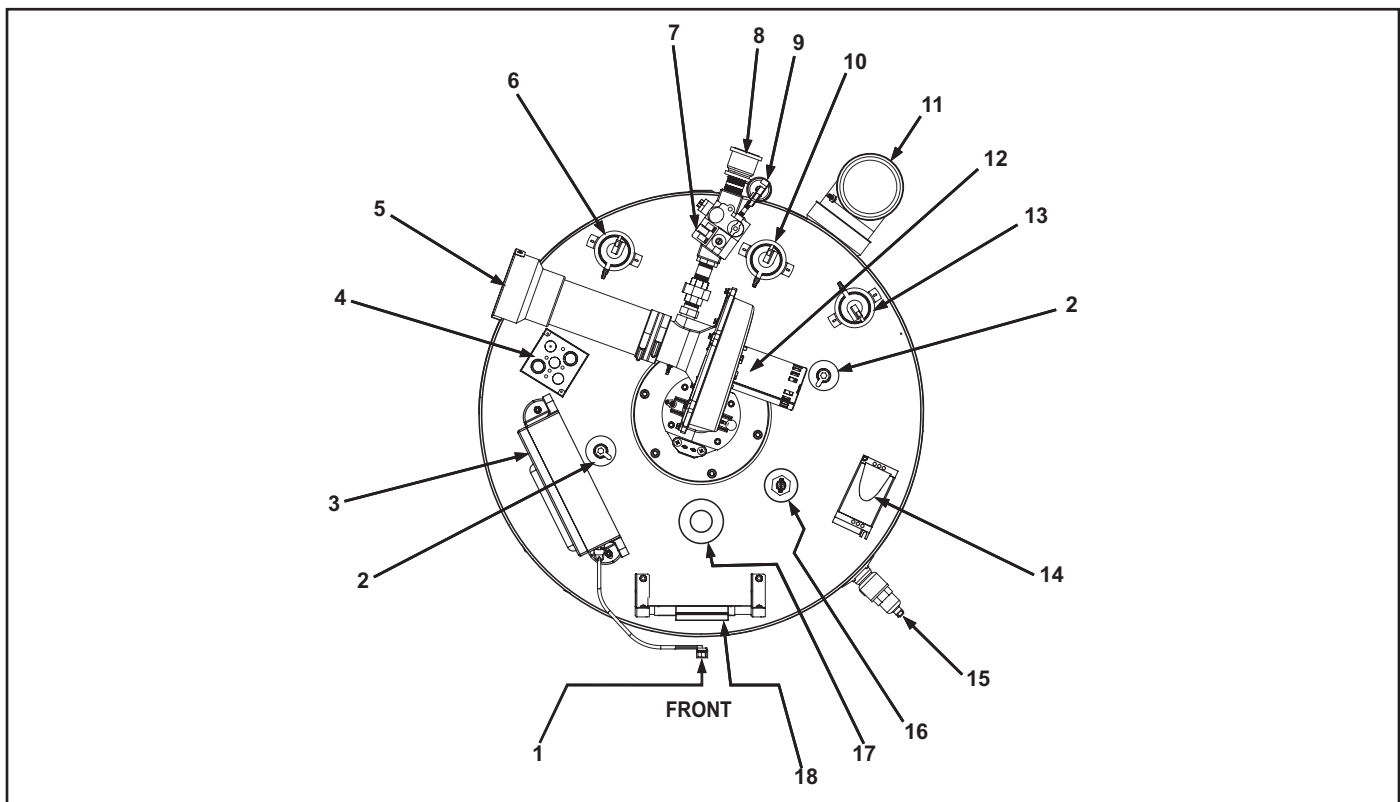

Figure 3
2. CCB enclosure - see Figure 3 on page 8 for description.
6. Low Gas Pressure switch, see description under Figure 3 on page 8. See Table 4 and the Gas Pressure Requirements on page 13.
9. VFD (variable frequency drive) blower motor drive - - see Figure 3 on page 8 for description.